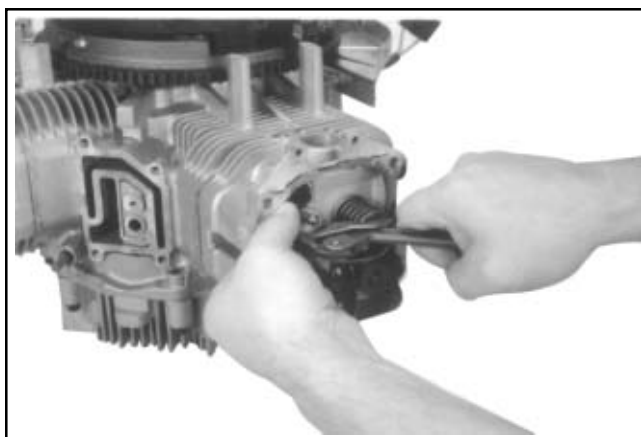

Figure 11-43. Using Spanner Wrench to Lift Rocker Arm over Push Rod.
4. Use a spanner wrench or rocker arm lifting tool (see Section 2), to lift the rocker arms and position the push rods underneath. See Figure 11-43.